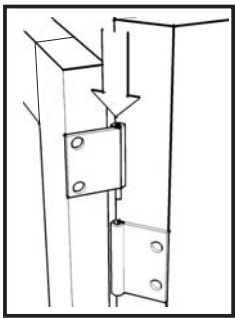

Figure 5
Attach Doors (H) and (I) by sliding the door lift hinges into the side panel lift hinges. (see Figure 5)